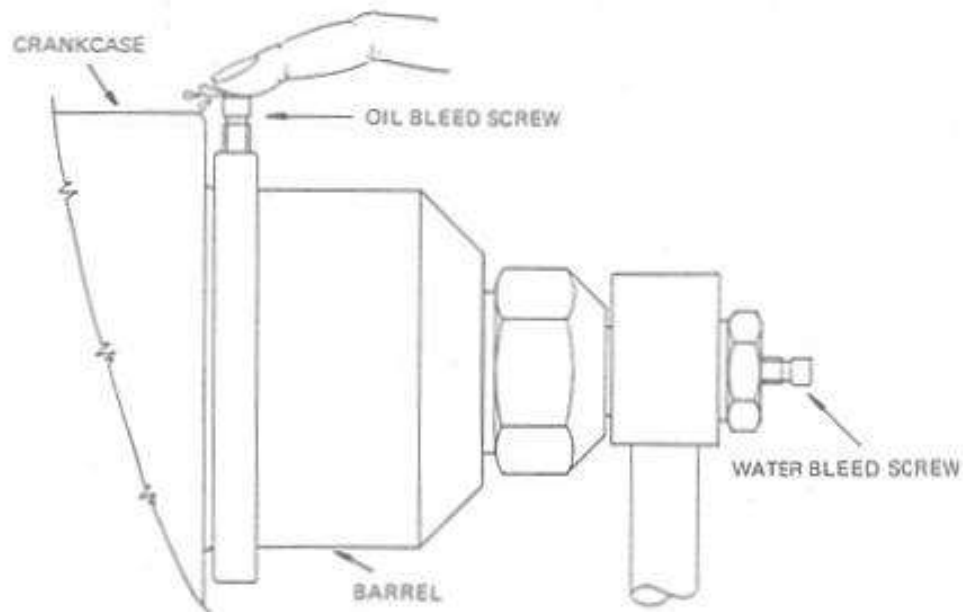

Fig 3.1 Bleeding the pump
- iii. With reference to Fig 3.1, put a finger on top of an oil bleed screw on a lower barrel and open the screw slowly using a suitable spanner. When air-free oil flows, tighten the bleed screw firmly.
- ii. The pump is self-priming. If, however, any difficulty is experienced, stop engine, loosen the upper bleed nipples and allow water to flow from each nipple (ensure that the header tank remains full). Tighten nipples and repeat the procedure detailed in *i*. To identify the bleed nipples, refer to Fig 3.1.